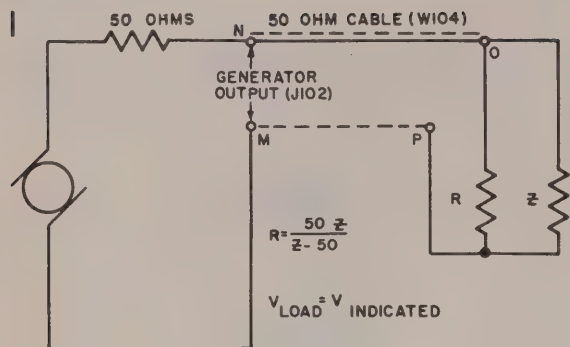

Figure 4-7. Equivalent Circuit of RF OUTPUT X-MULT (J102) with Shunt Resistor Added
shunts the load (figure 4-7). The equivalent impedance of the shunt and load should equal the generator impedance (50 ohms). The receiver input voltage will then be equal to the meter indication. For example, if the receiver input impedance (Z) is 120 ohms, select the correct shunt resistor (R) as follows: